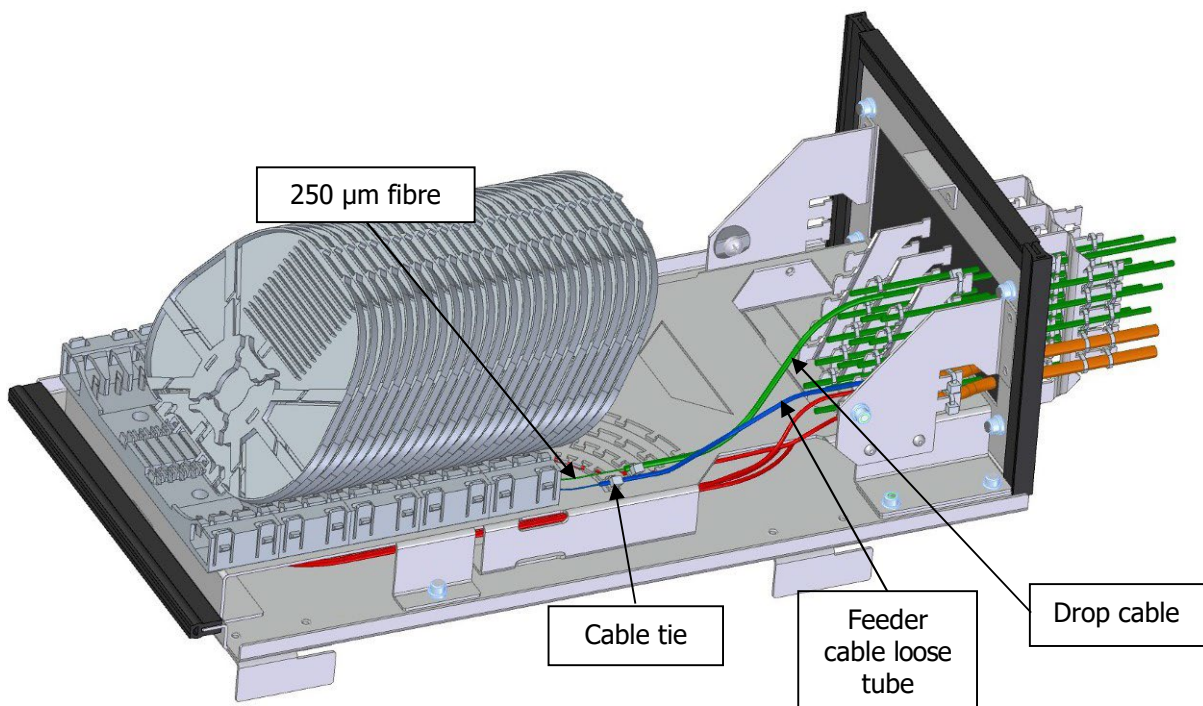

Fig.10. Fibre management splice tray retention blocks
13. The fibers of customer drop microcables and feeder cables are routed to the hinged splice trays. At the entry to the hinged splice tray retention block area the fibre protection layers are stripped off and further 250  $\mu\text{m}$  primary coated fibres are guided to the hinged splice trays, see Fig.10.